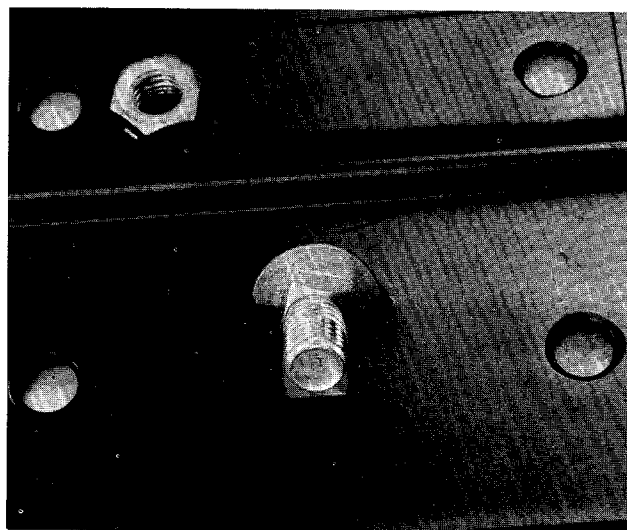

FIGURE 2. ATTACHING SEAT BOLT
SEAT ASSEMBLY See figures 2 and 3.
- Step 1. Hook the large carriage bolt into the bottom of the seat as shown in figure 2.